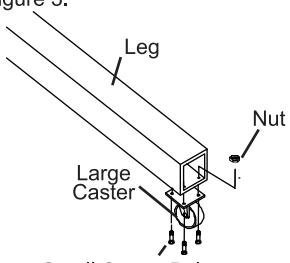

Figure 3
- To attach one Large Caster (17) to the end of each Leg, align the four mounting holes in each Large Caster with the four mounting holes on the underside of each Leg. Secure in place using four Small Caster Bolts (18) and Nuts (16). See Figure 3.